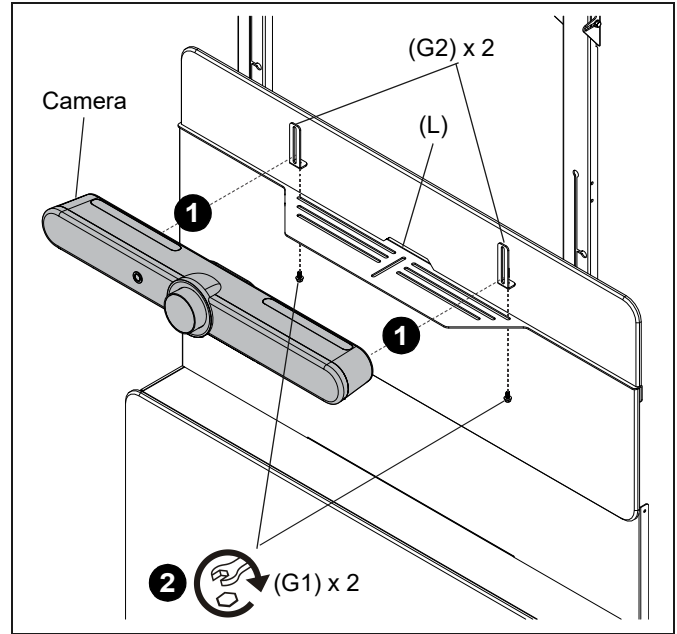

Figure 25
2. Position the camera over the camera shelf and install the brackets (G2) to the shelf using two 1/4"-20 x 1/2" hex screws (G1). (See Figure 25)
3. Adjust the height of the camera to the desired height and tighten the camera hardware. (See Figure 25)